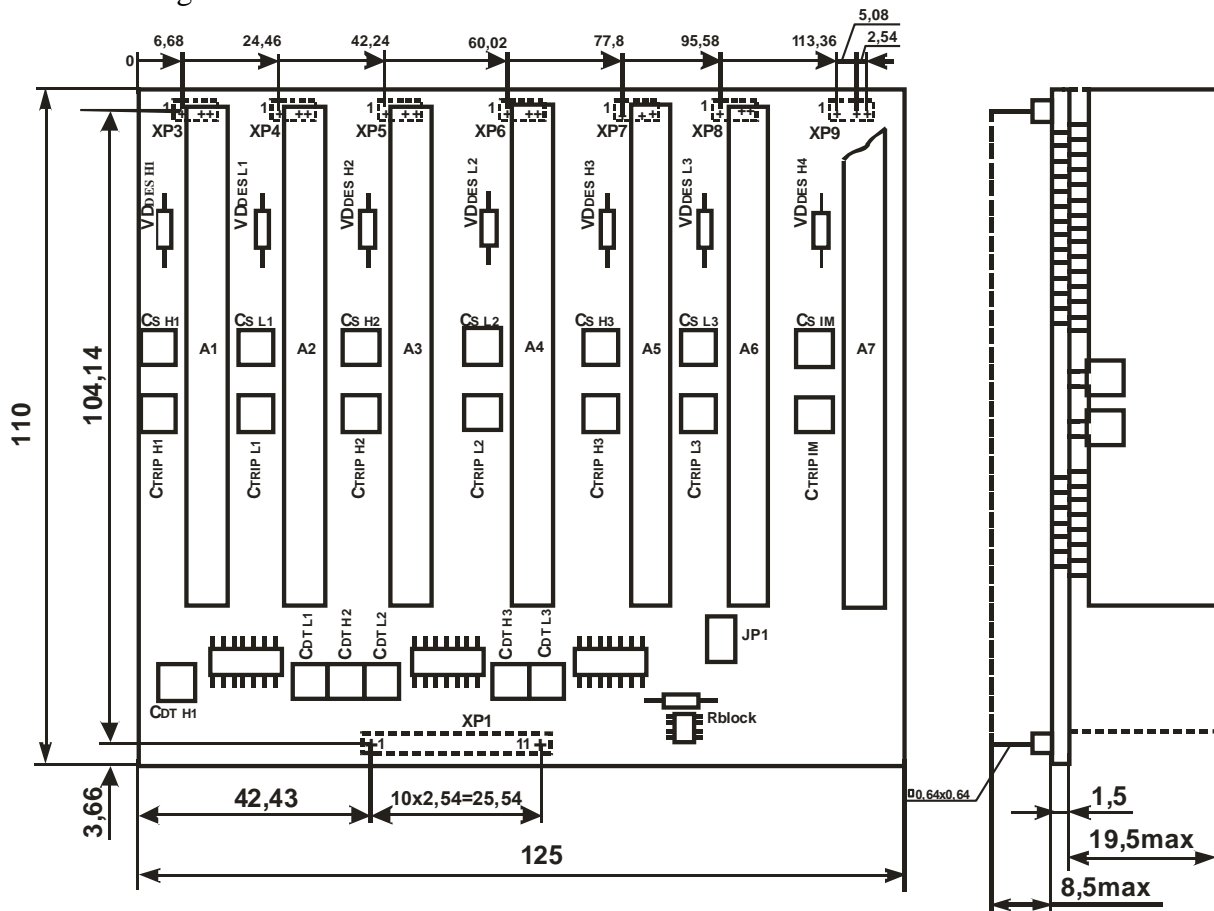
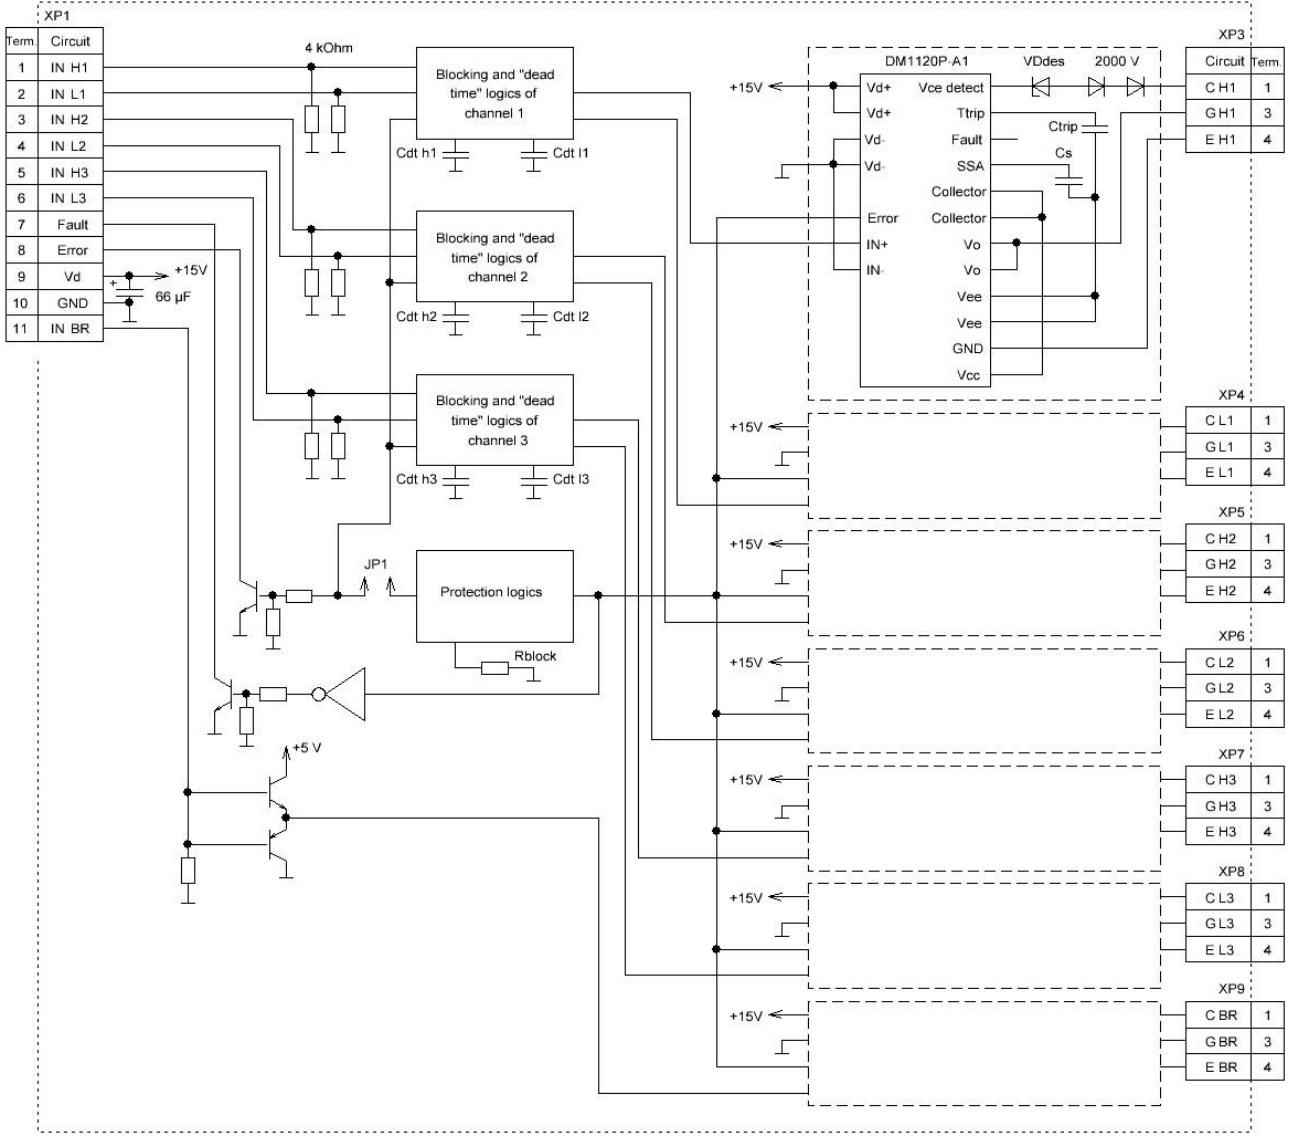
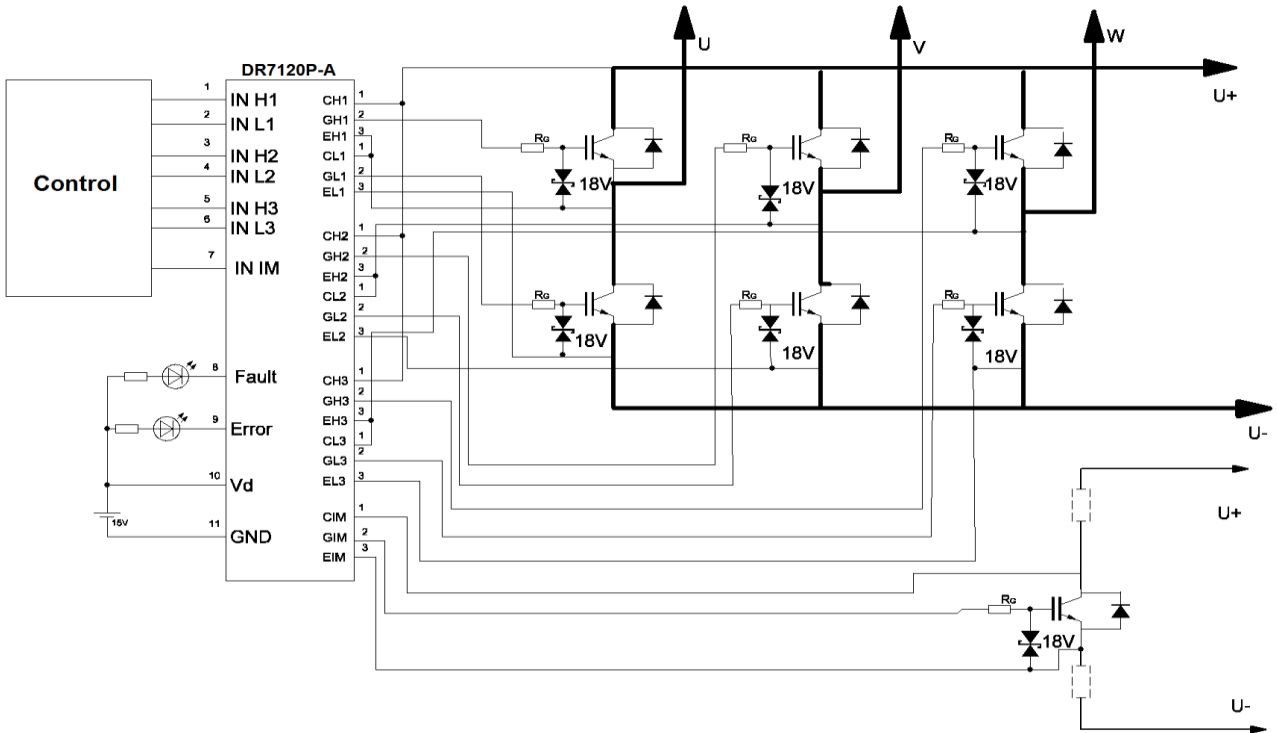

Figure 1 – Overall drawing of driver
Figure 2 – Functional circuit of driver
Figure 3 – Driver connection circuit
3.1 Dimensional drawing is shown on Figure 1, functional diagram is shown on Figure 2, connection circuit is shown on Figure 3.